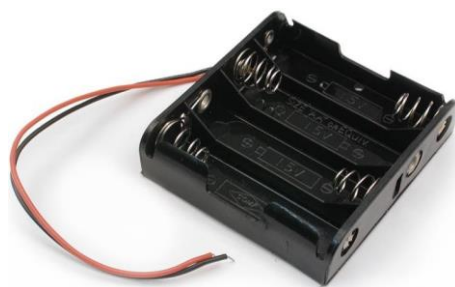
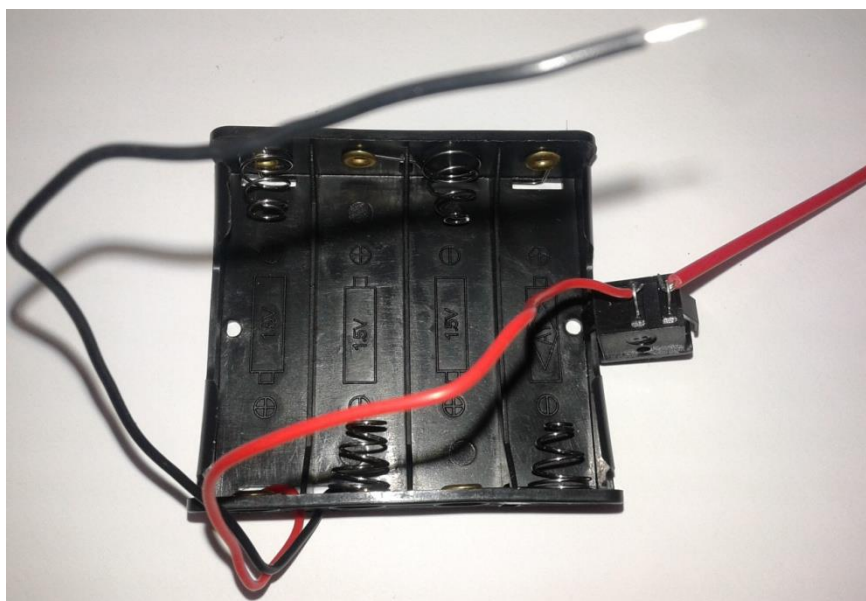

Figure 11: Battery Holder
Figure 12
- Have students connect the on – off switch to the battery holder (Fig. 11). The red wire (+) coming from the battery holder must be cut into two parts (Fig. 12). The part coming from the holder is soldered to the one terminal of the switch. The one end of the remaining red wire is soldered to the other terminal of the switch (Fig. 12).